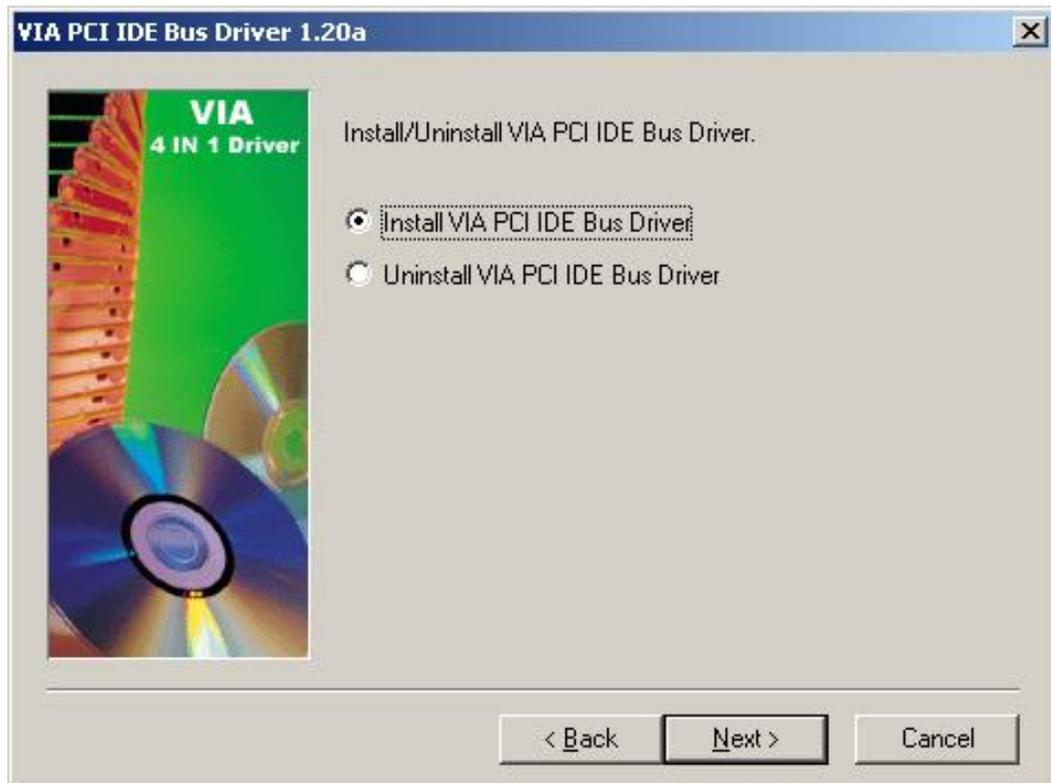

Figure 7-7: VIA PCI IDE Bus Driver Selection
Step 8: The setup then prompts the user (see **Figure 7-7**) if the VIA PCI IDE Bus Driver must be installed on the system. Select install or uninstall. Click "**NEXT**" to continue.